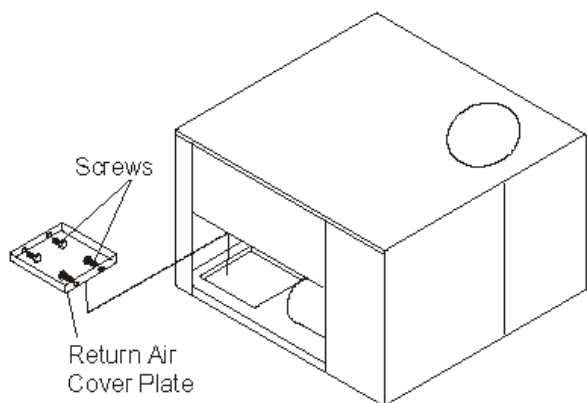

Figure 8: Removing Cover Plate
3. Use a 5/16" nut driver and remove the four screws securing the Return Air (RA) cover plate as shown in Figure 8. Remove the RA cover plate and discard.